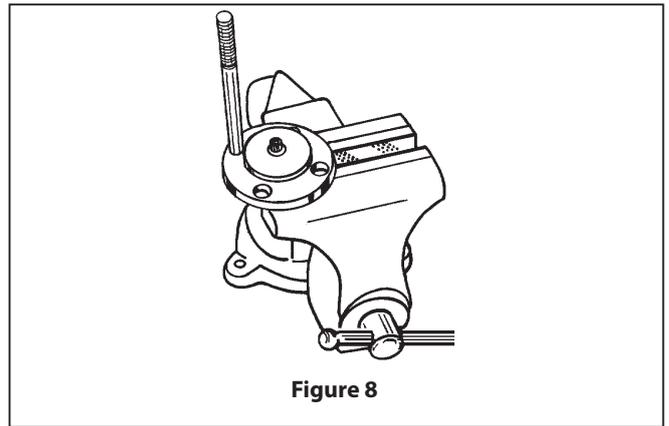

Figure 8
- Locate the (15) plate over the (14) button.
- Position the (16) black diaphragm on the (10) screw.
- Position the (17) white colored diaphragm in the same manner.
- Thread the (40) valve stem onto the small screw and snug hand tight.
- Flip the assembly over and place in a vise, locating on the valve stem flats. Use one of the (2) long bolts to align the diaphragms and the plate. The bolt is to help maintain alignment of the diaphragms only at this point (see figure 8).
- Hold the plate in this position and tighten the (10) small screw into the stem. **NOTE:** Torque to 65 - 75 in. lbs (7.3 - 8.5 Nm).
- Place the (18) "O" ring into the base groove.
- Place the (9) spring and (22) spring stop on the plate.
- Assemble the (1) housing to the (48) base, aligning the four bolt holes.
- Retain the housing using four (3) lock washers and four (2) long bolts. **NOTE:** Tighten alternately until snug, then torque to 20 - 25 ft lbs (27.1 - 33.9 Nm).